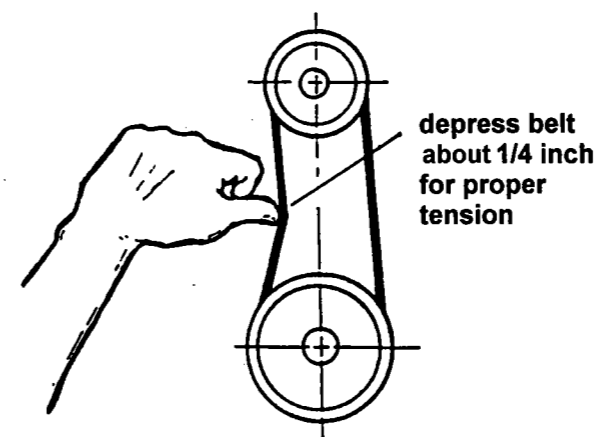

FIGURE 6
5. Turn the tensioning knob clockwise to adjust tension. Adjust tension until light finger pressure deflects the belts 1/4" midway between the pulleys. See Figure 6.
6. Tighten the two hex cap bolts (A).